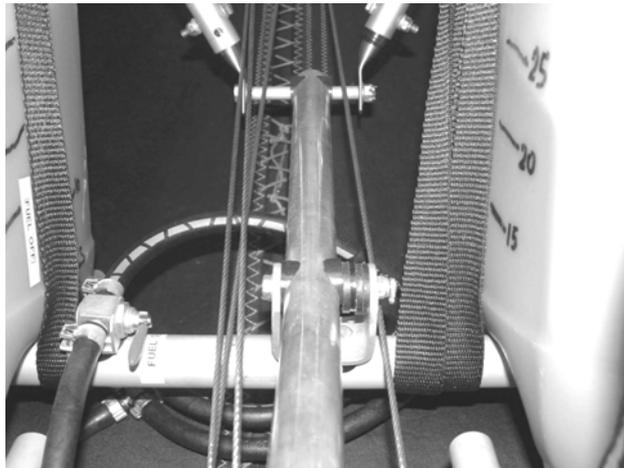

Figure 110; cable routing past flap handle.
- c) The cables route past and over the flap handle as shown in Figure 110, looking rearwards. The rudder cables are the lowest, with the elevator cables passing above them.
- b) Make sure the rudder cables pass over the flap handle mount and over the flap linkage at the rear end of the flap handle, Figure 110.